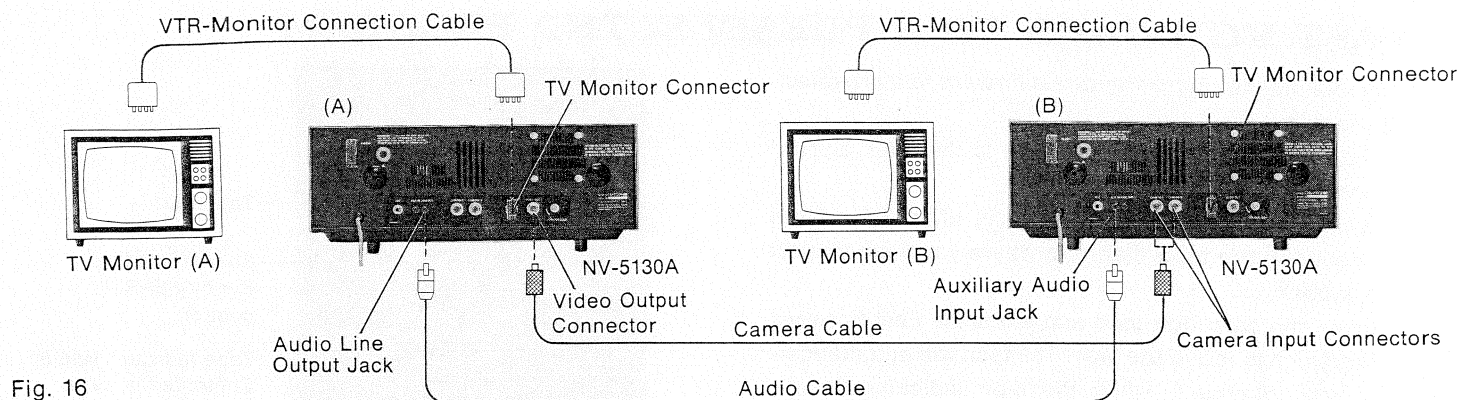

Fig. 16
1. Connection should be made as shown in Fig. 16.
4. Set the Sync Mode Selector ⑳ to the "INT. SYNC" position.
8. Set the Video Dubbing Switch ⑮ of unit (A) to the "DUB" position.
9. After above setting, start the recording on unit (B).